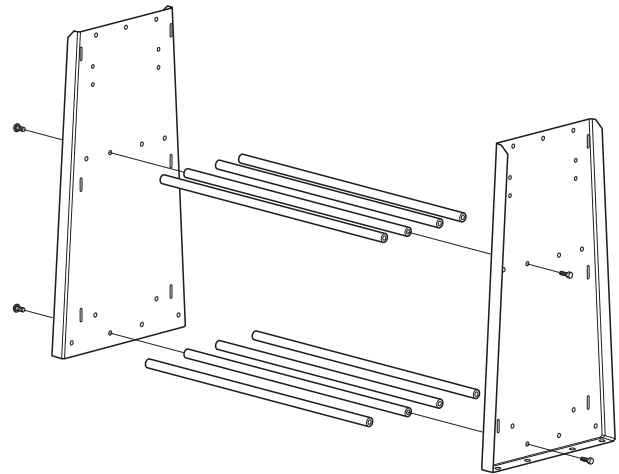

Figure 4-1
1. Using sixteen M10 x 25 Hex Flange Bolts (item #6), attach the eight Die Rods (item #10) to the Side Panels (item #3) as shown in Figure 4-1. Make sure the flanged ends of the Side Panels are facing out. **Do not fully tighten bolts at this time.**